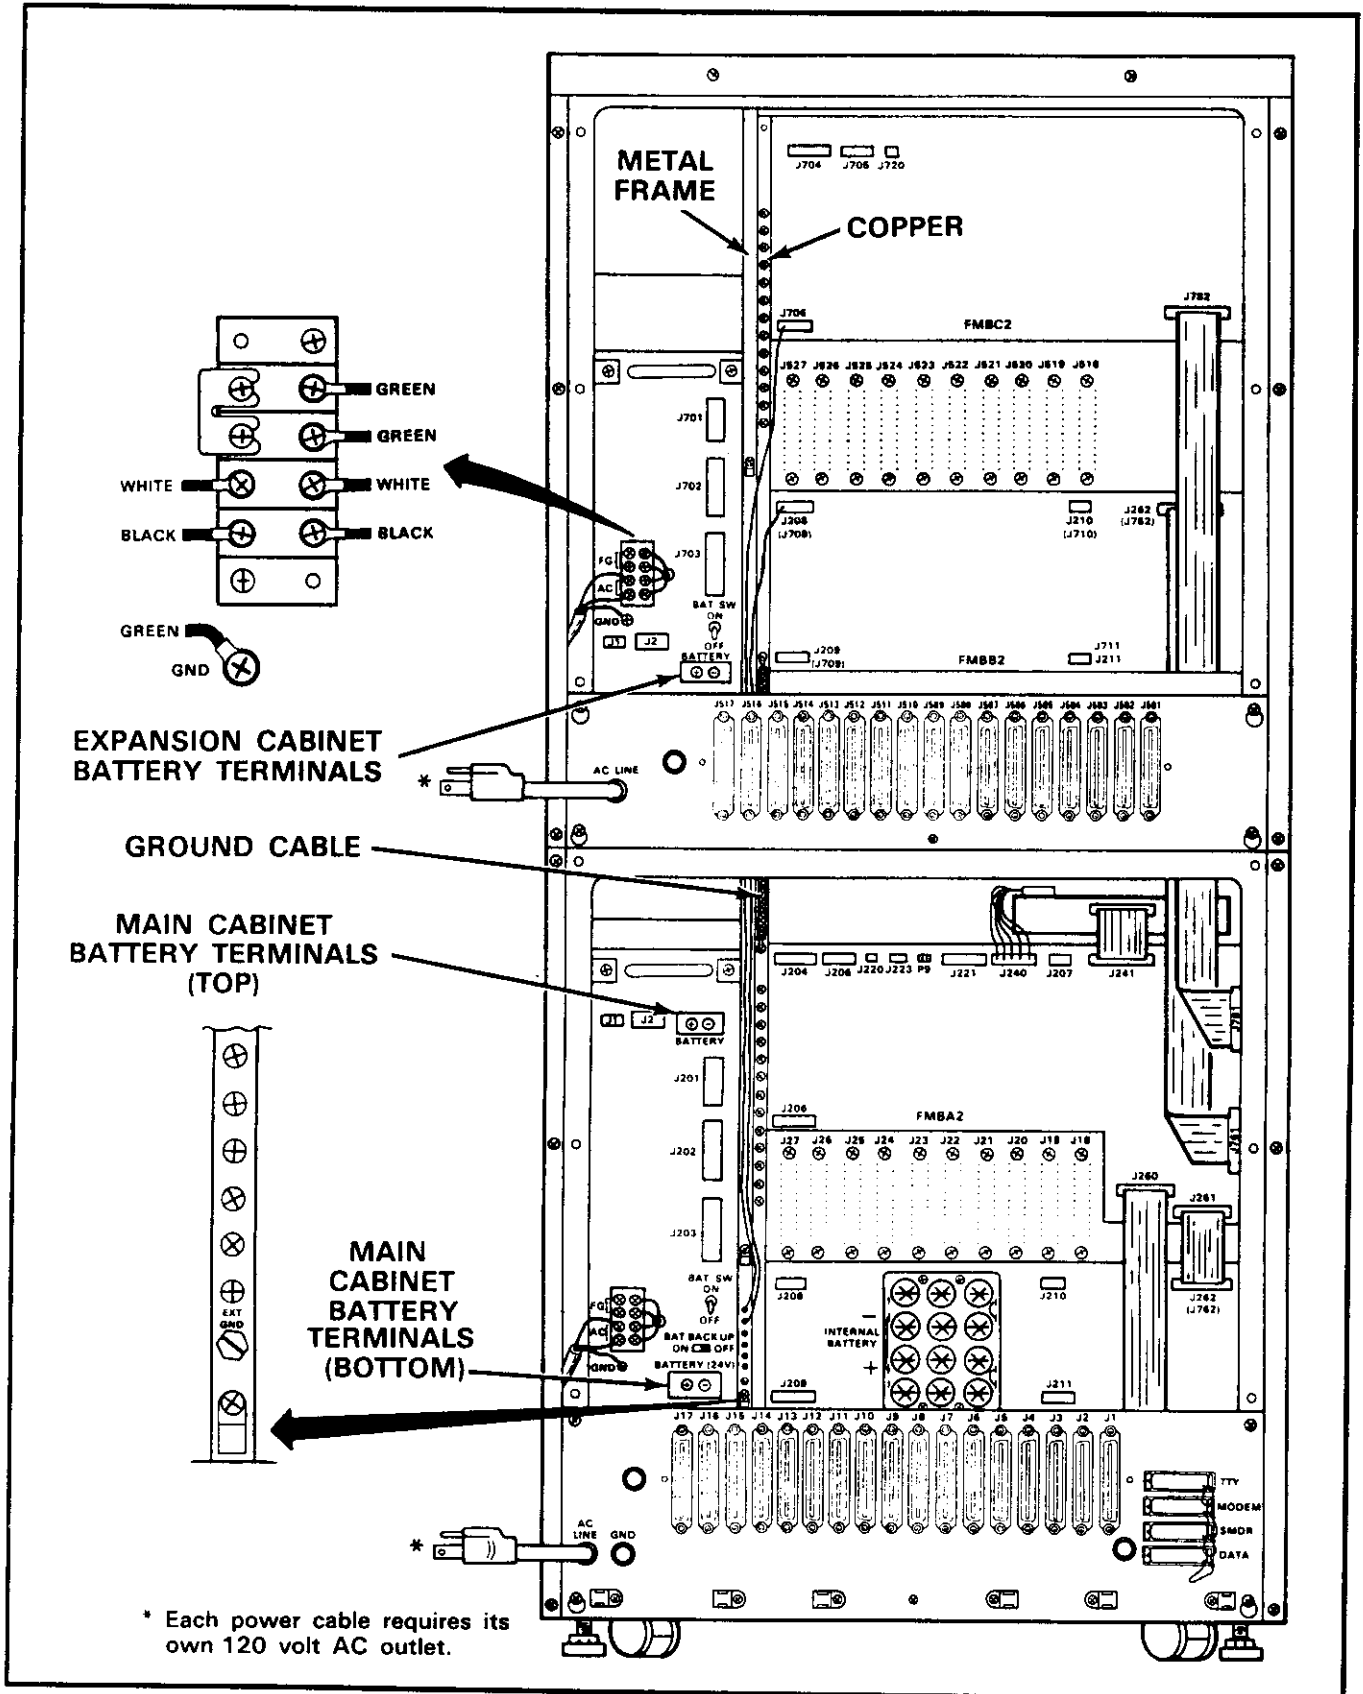

FIGURE 14—BASIC and EXPANSION CABINET AC and GROUND CONNECTIONS
- 4) Remove the plastic cover from the main power terminal (located on the rear panel) by removing its two connecting screws. Connect the AC line power supply wiring to the main power terminal block. Ensure that the wires match their corresponding colored wires, as indicated below and in Figure 14:
- 6) Connect the ground cable to the screw provided in the rear of the cabinet copper frame (Figure 14).
- 3) Observing correct polarity, connect the peak load battery cables to the **BATTERY (24V)** terminal strip located on the lower rear of the expansion cabinet power supply (see Figure 14).
- 4) Observing correct polarity, connect the peak load battery cables to the (top) **BATTERY (24V)** terminal strip located on the upper rear of the basic power supply (see Figure 14).